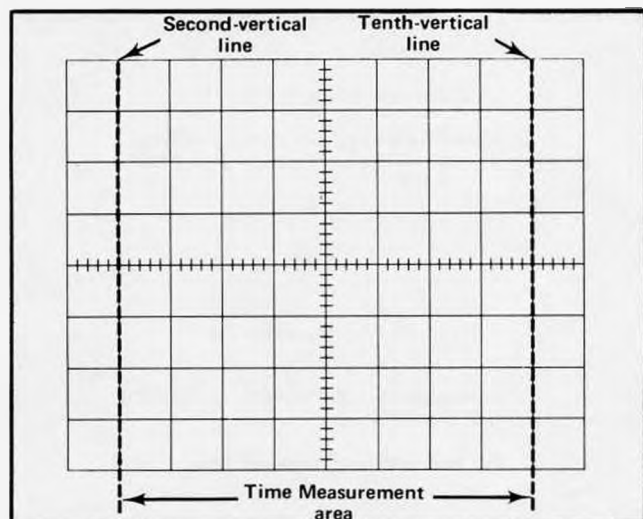

Fig. 1-8. Area of graticule used for accurate time measurements.
When making time measurements from the graticule, the center eight divisions provide the most linear time measurements (see Fig. 1-8). Position the start of the timing area to the second vertical line and adjust the TIME/DIV OR DLY
5. Set the TIME/DIV OR DLY TIME switch to the fastest sweep rate that displays less than eight divisions between the time measurement points (see topic entitled "Time Measurements" and Fig. 1-8).